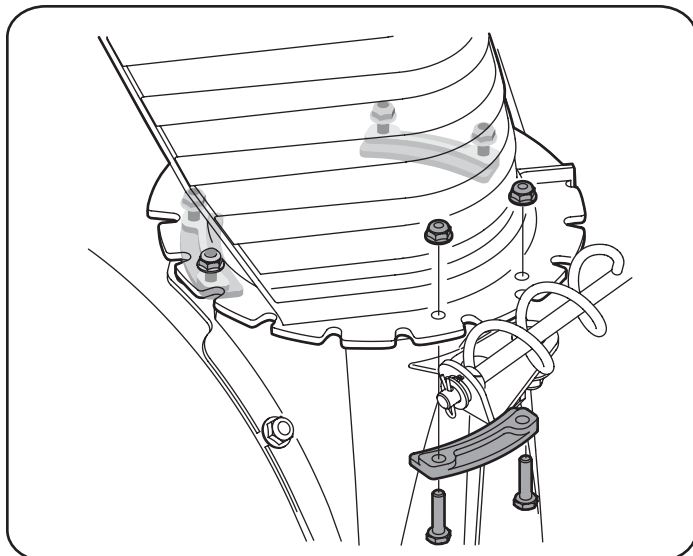

Figure 4
- Remove locknuts and screws securing one of the flange keepers to the chute assembly. See Figure 4.
- If not already attached, slip the cables that run from the handle panel to the discharge chute into the cable guide located on top of the engine. See Figure 4.